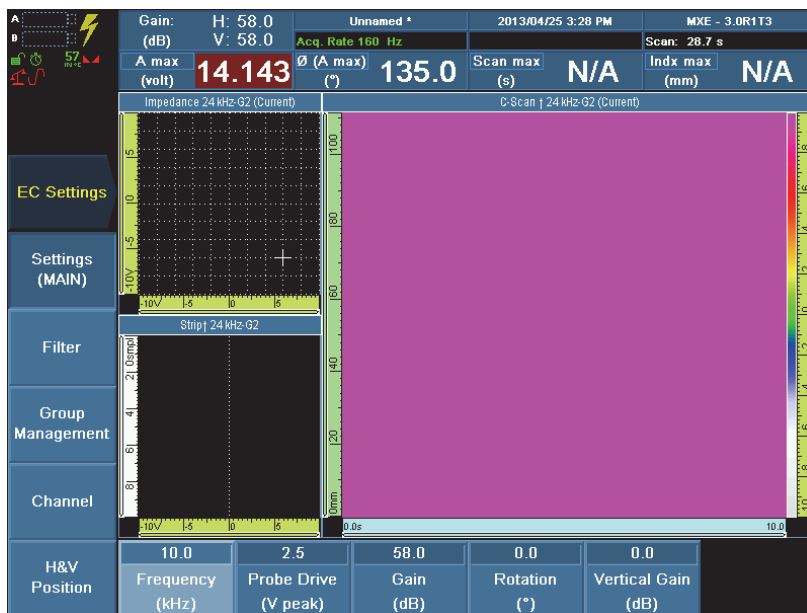

Figure 9-19 Configuring the Frequency and Gain parameters for mixing frequency 1
- c) Select **Frequency (kHz)**, set the value to optimize the detection of sub-surface corrosion, and then press the Accept key to confirm. In this example, the **Frequency (kHz)** value is set to 10.0 (see Figure 9-19 on page 163).